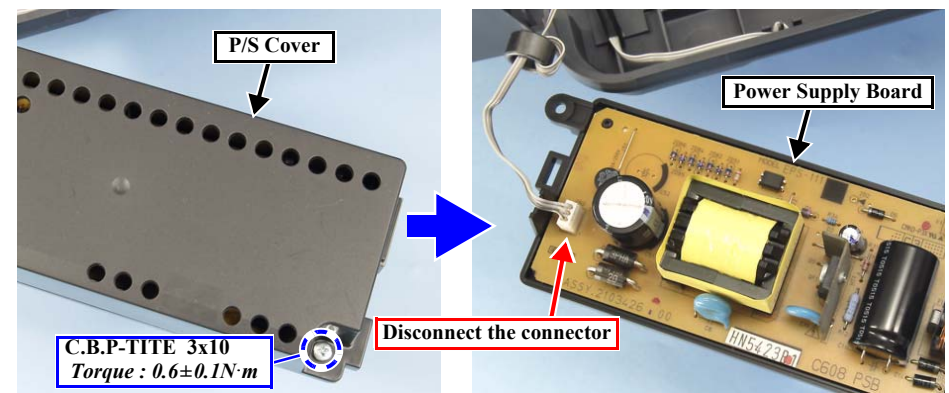

Figure 4-48. Removing the Power Supply Board
2. Remove the screw, and remove the P/S Cover. (Fig. 4-48)